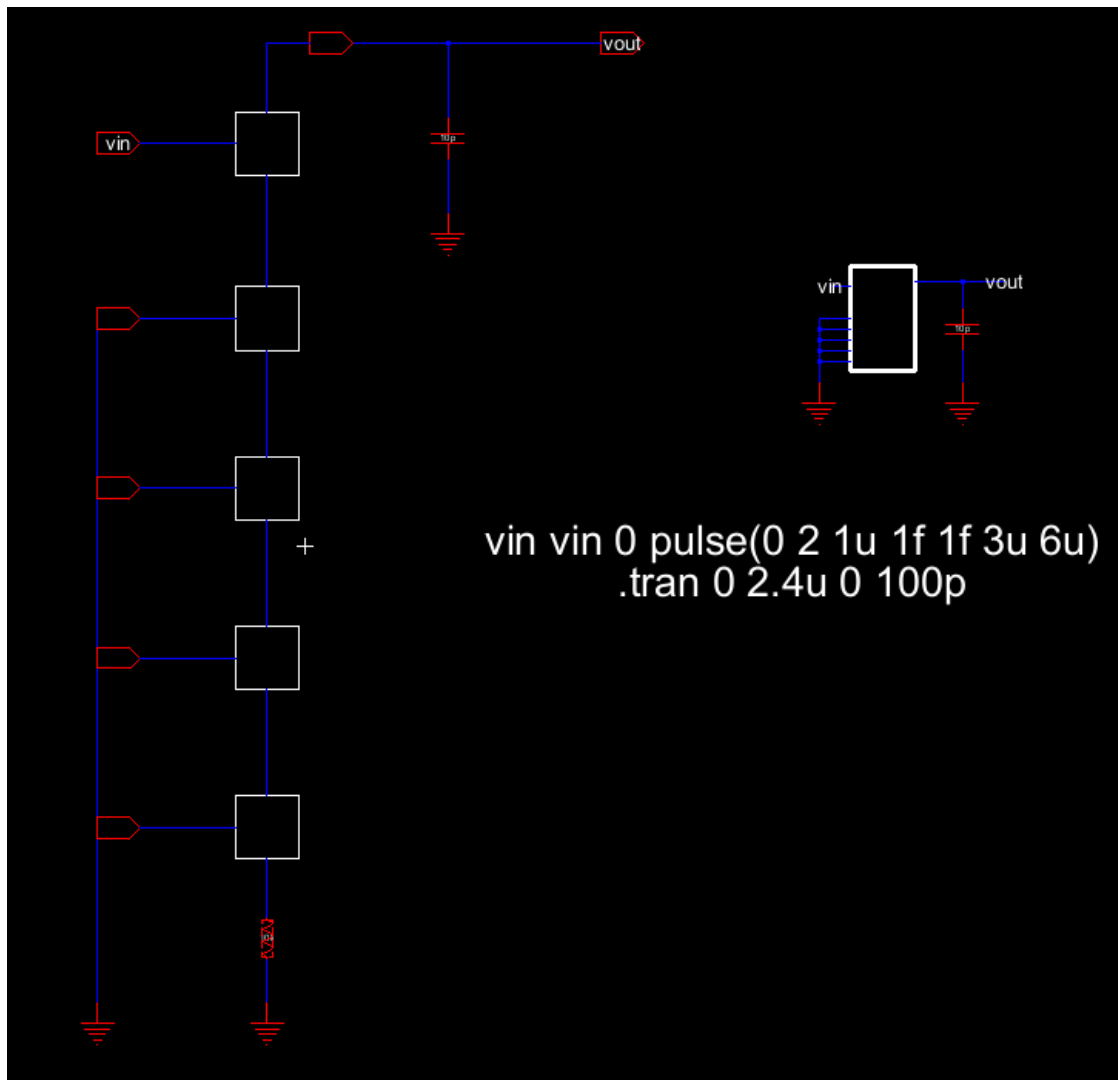

Figure 4.1: DAC with 10 pF Capacitor Load Schematic & Icon
- Figure 4.1 shows the grounded DAC schematic and icon with a 10 pF capacitor load.